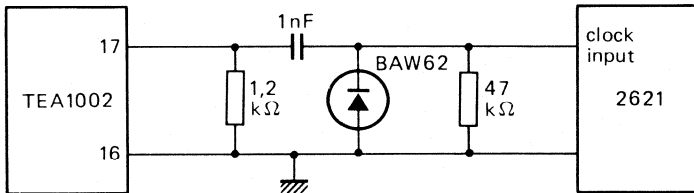

Fig. 5 Clock coupling circuit.
- This circuit assumes capacitive coupling to the N-MOS games IC (see Fig. 5).